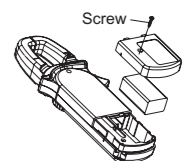

Figure 10
- If the reading is positive, the current direction is from bottom to up. See figure 10, the front case face up while the bottom case face down. Hold the Meter tight, do not release suddenly. The built-in Hall components are very sensitive not only to the magnet but also to heat and machines reaction force. Any shock will cause the changing in reading in the short time. Following the below procedure to measure AC current will obtain a more precise reading:
**B. Replacing the Battery** (See Figure 10)